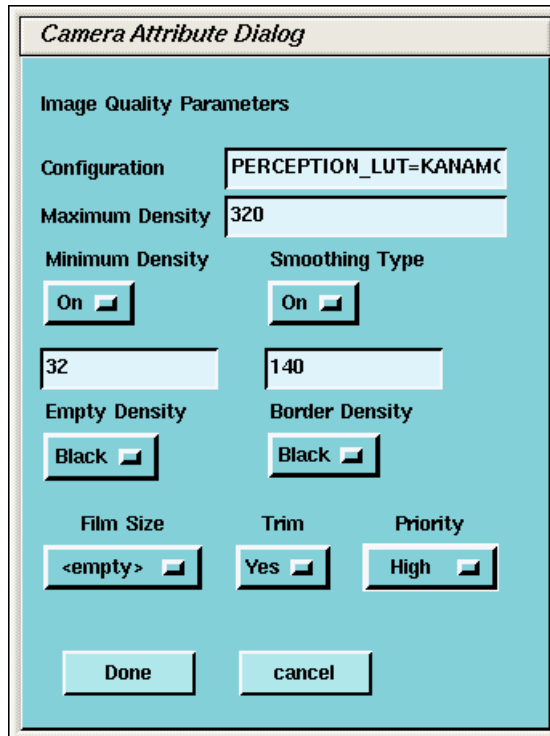

Figure 8-16 Advanced Parameters (Camera Attribute Dialog)
- h.) After the camera has been configured, click the ADVANCED button. This creates the camera device file for you automatically and pops up the Advanced Parameters screen. See Figure 8-16.